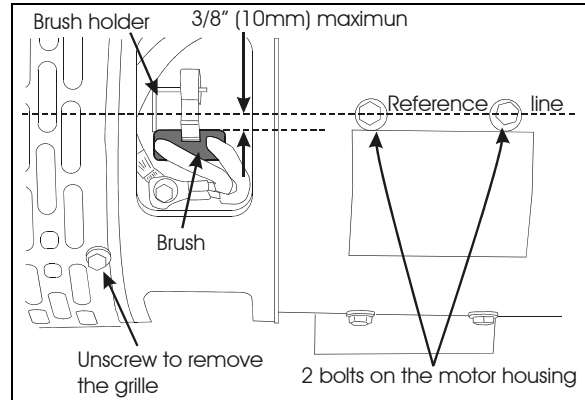

FIGURE 23: EVAPORATOR MOTOR
1. Remove the screws securing the grille and remove the grille. Locate the 2 bolts fixing the mechanism permitting the rotation of the brush holder support (Figure 23).